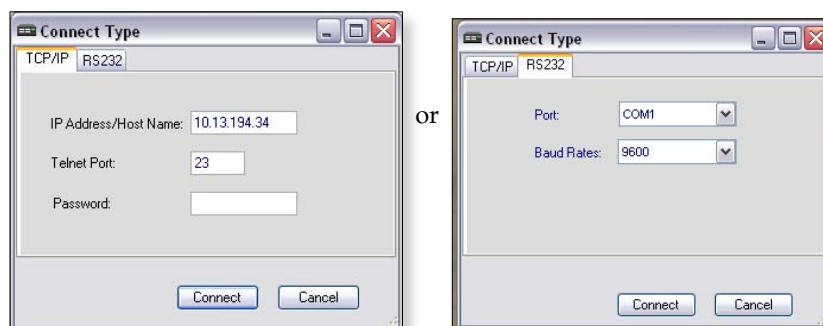

Figure 5-4 — Connection type selection windows
One of two Connect Type selection windows appears (see figure 5-4).
- **Connect** — Selecting this opens a window with two connection type tabs (see figure 5-4). Select the connection method preferred, complete the address fields then click **Connect** to connect with your ISM 824. The status bar at the bottom of the main window indicates connection status.